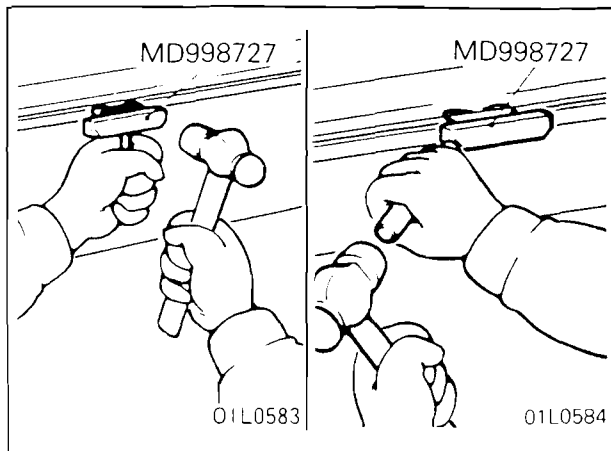

Fig. 4 — Removing oil pan
- (4) Remove oil filter and oil filter bracket.
- (5) Remove oil pan, using tool No. MD998727, knock it deep between the oil pan and cylinder block, then hitting side of special tool, work around oil pan, refer Fig. 4.